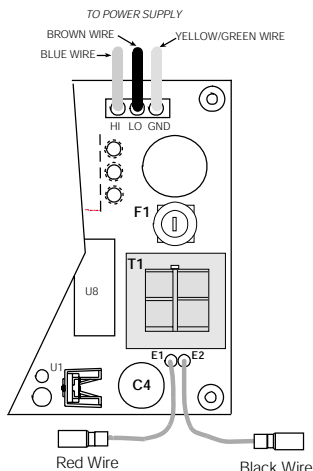

Figure 8-5. E1 and E2 Wire Locations
7. Solder the red wire to E1 and solder the black wire to E2 as shown in Figure 8-5.